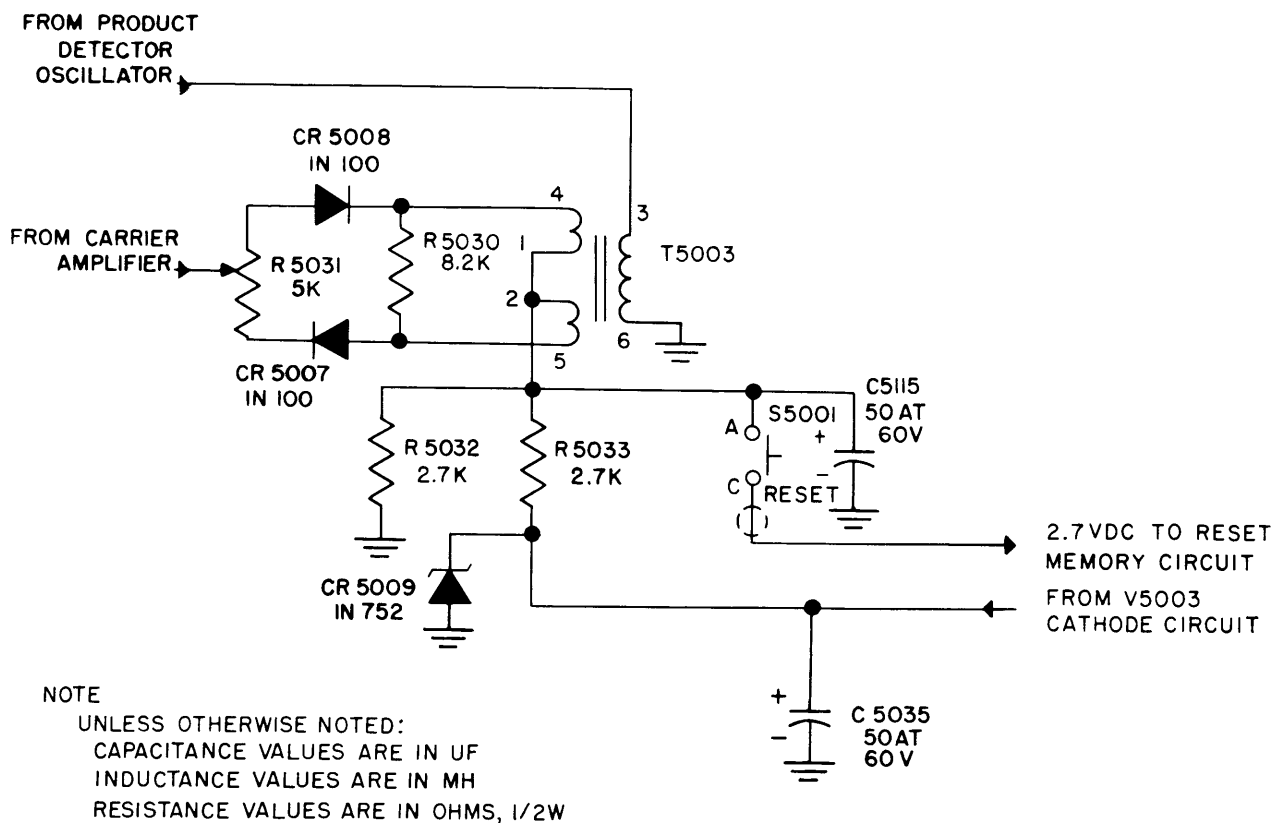

Figure 4-3. Phase Detector, Simplified Schematic Diagram
b. **PHASE DETECTOR.** The phase detector is comprised of T5003, CR5007, CR5008, R5030, and potentiometer R5031 (figure 4-3). The 250 kc carrier IF is connected to the wiper arm of R5031 and is about 10 volts rms at that point. The 250 kc from the product detector oscillator is fed into terminal 3 and 6 of T5003, and is stepped up from 3 volts to 30 volts at terminals 4 and 5. If both of the 250 kc signals are in-phase, no correction voltage is produced. If the two signals are out of phase, a correction voltage is produced and the amount is proportional to the phase difference. The d-c voltage developed is taken from the phase detector at the wiper arm of R5031. The d-c voltage may either be positive or negative, depending upon the phase relationship of the two signals. The phase detector is referenced at a positive 2.7-volt level. The usual range of the phase detector output is
trol. The varicap is specified by the value of capacitance in micromicrofarads with a bias of 4 volts. The bias voltage must be applied in the reverse direction. The "varicap" in the grid circuit of V5006A performs the function of a reactance modulator. The positive connection of the "varicap" is referenced to the 5.4 volts developed across the zener reference diode, CR5009 (see figure 4-3). The output of the phase detector is applied to the negative side of the "varicap". The bias circuit from the phase detector is isolated from the converter injection oscillator by R5079 (see figure 4-6). The isolation prevents the product detector oscillator from being affected by the long time constant of R5079, C5076, and C5077. The bias control line to the product detector oscillator is, therefore, free to follow rapid excursions. The oscillator is designed to shift at least  $\pm 50$  cps. When the product detector oscillator has been shifted by 50 cps, the time constant of the converter injection oscillator has allowed it to start correcting, and as a result, the product detector oscillator returns to center frequency. It can now be seen that when the converter oscillator has completed its total shift of 1 kc, the product detector oscillator will also have completed its maximum shift of 50 cps. Any further shift in the same direction will fall outside of the crystal filter, and the AFC unit will necessarily lose control, unless recentered by the manually-operated tuning control. C5064 provides the only circuit connection of V5006A and V5006B, and, therefore, facilitates the mixing action of 1.5 mc and 1.25 mc. The 250 kc output is taken from the plate of V5006B. The network of C5058, C5059, L5007, C5057, and R5056 form a low-pass filter. V5005 is a buffer amplifier to prevent circuitry external to the oven